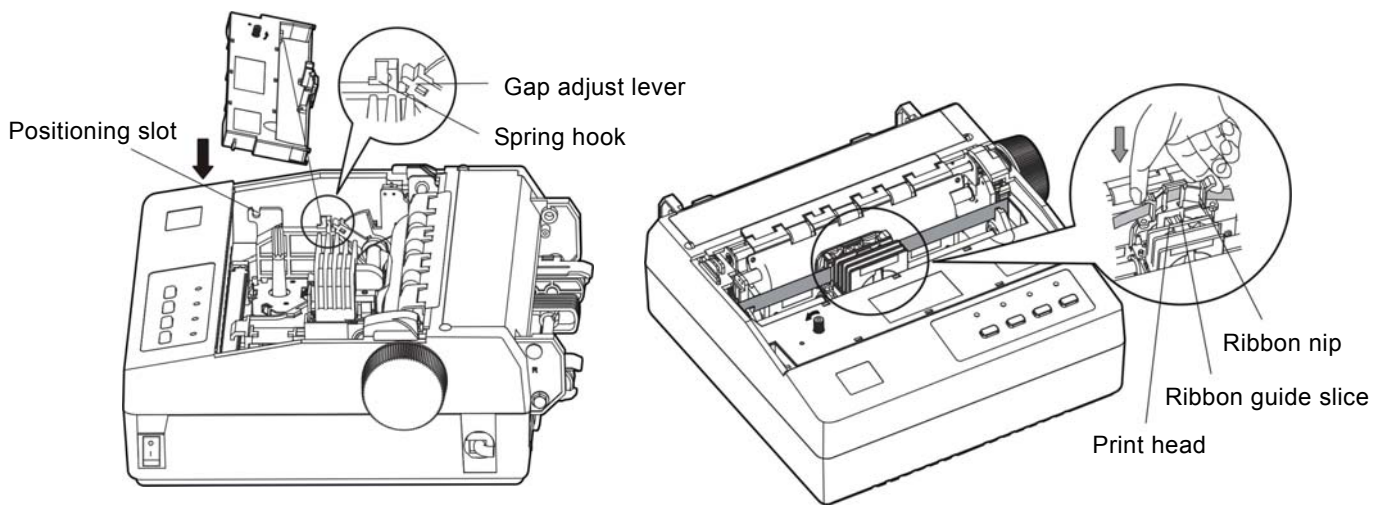

Figure 1-7 Installing the ribbon cartridge
4. Hold the ribbon cartridge with the ribbon knob facing upwards. (As Figure 1-7 shown) Before installing the ribbon cartridge, adjust the gap adjust lever to the appropriate position. First push the upper locked arm into the corresponding spring hook, insert the positioning tab onto the corresponding positioning slot, press it lightly until it clicks into place, then insert the ribbon nip and ribbon core onto the place between the print head and the ribbon guide slice. (At the same time, turn the ribbon knob in the direction shown by the arrow on the ribbon cartridge to tighten the ribbon). Last, adjust the gap adjust lever according to the paper you used. (See the details in user's manual chapter 3.)